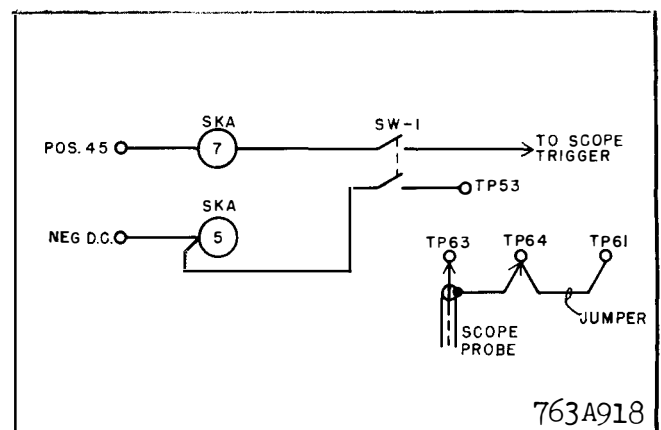

**Fig. 12. Test Connections for the Transient Blocking Unit of the Type SKA Relay.**
1. Make the connections shown in Fig. 12.